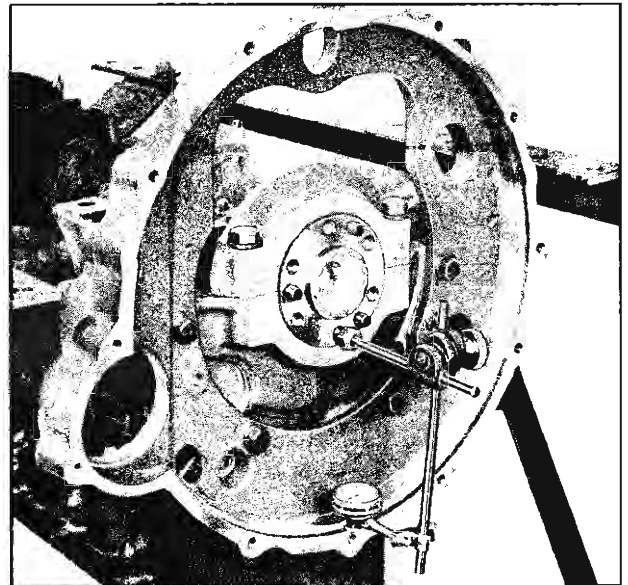

Fig. 53—Checking Bore Runout
8. Take readings at the 9, 12, and 3 o'clock positions, carefully lifting indicator button over each cutaway section of flange. The runout should not exceed .005" (fig. 53).